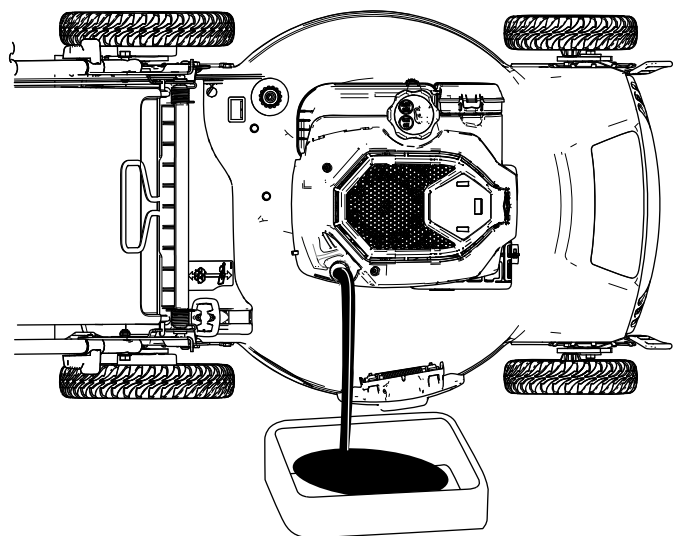

Figure 25
4. Tip the machine onto its side (so that the air filter is up) to drain the used oil from the oil-fill tube (Figure 25).